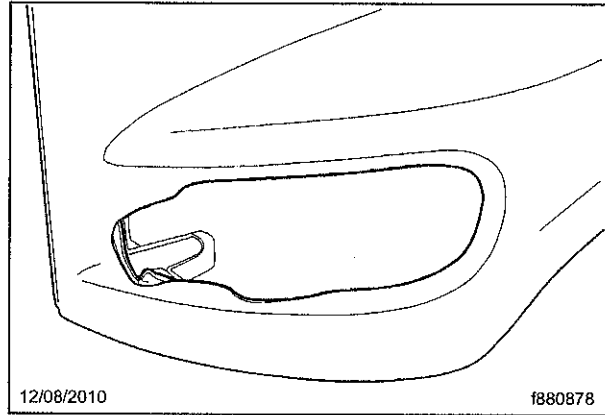

Fig. 9, New Headlight Opening
12. Remove the cut pieces of the headlight openings and remove any remaining tape. See **Fig. 9**.